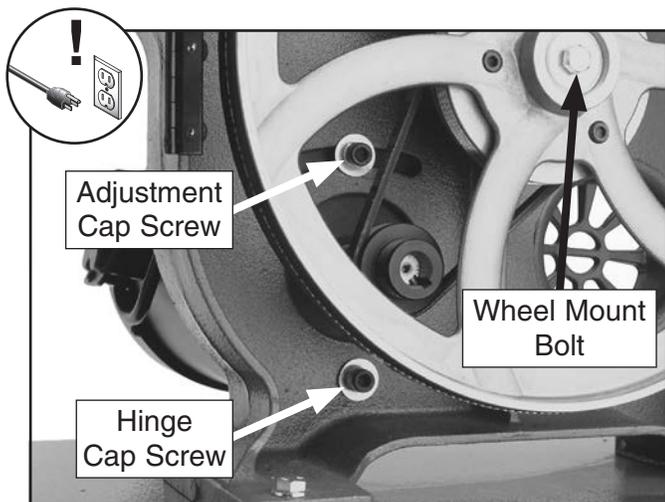

Figure 55. Locations of the wheel mount bolt, and motor adjustment and hinge cap screws.
3. Loosen the motor adjustment and hinge cap screws shown in **Figure 55**.